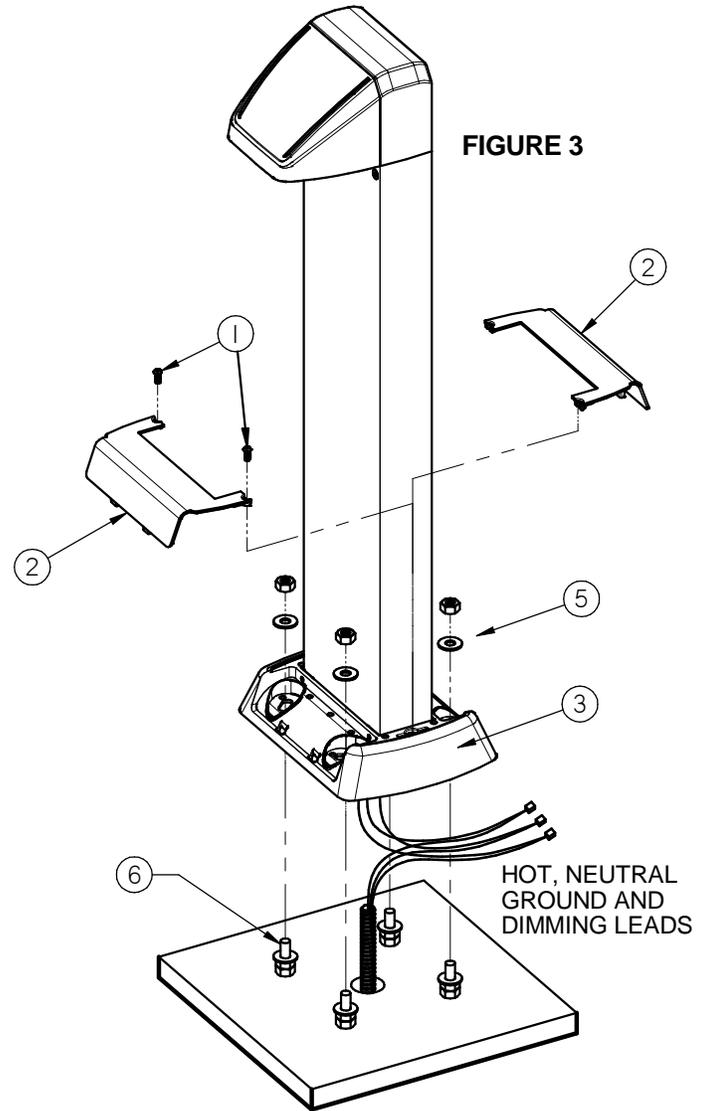

FIGURE 4
- Place the bollard on the concrete pad and anchor bolts as shown. Angular adjustment slots allow the base and bollard to be rotated slightly if needed (see Fig 4). Using a level across the top of the base casting, determine if leveling nuts are needed. If not, place the (4) flat washers and 1/2-13 nuts (provided) and tighten the base casting into place (see Fig.5). If leveling nuts are needed (Fig 4 & 5) thread (4) 1/2-13 leveling nuts and washers (not provided) onto the anchor bolts and make adjustments as necessary until the base casting is level. Secure all of the 1/2-13 nuts.